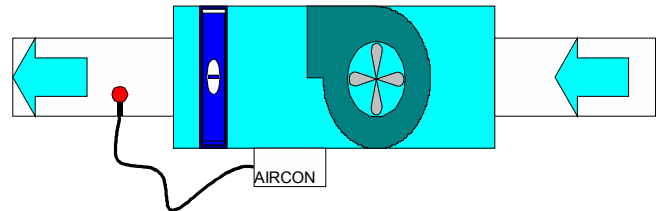

Fig1.
2. Mount the Aircon Energy Saver at the terminal unit and install the sensor in the supply air stream. Position sensor either at the grill of a cassette unit or if in a ducted system allow about 450mm from the evaporator coil. The duct can be drilled with an 8mm hole for the sensor. (Fig 1.) The sensor cable can be extended if required.